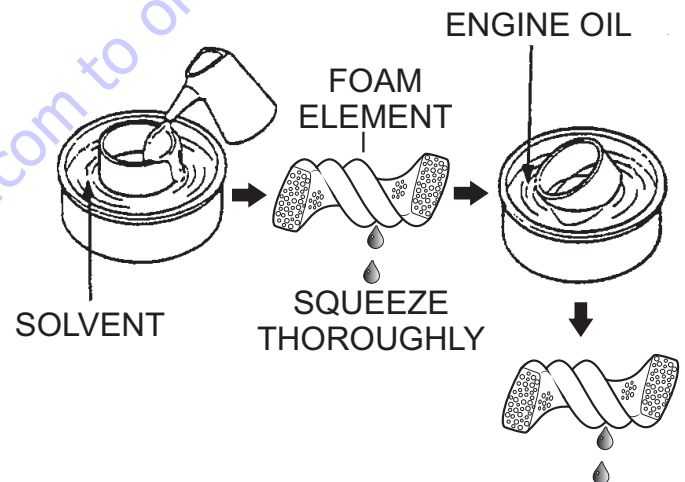

Figure 39. Cleaning Foam Element
6. Clean foam element (Figure 39) in warm, soapy water or non-flammable solvent. Rinse and dry thoroughly.